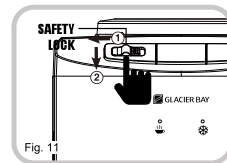

Fig. 11
2. Slide the safety lock to the left side and simultaneously press down the hot water button. (Fig.11)